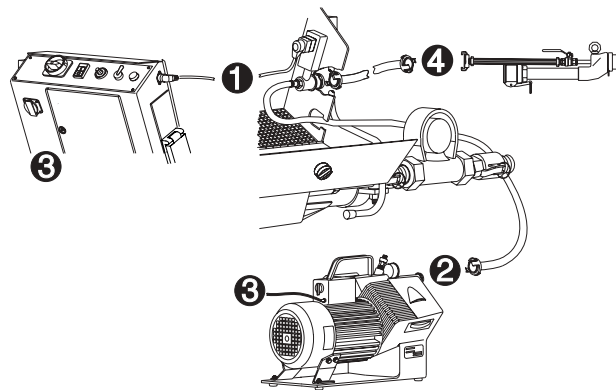

Fig. 7: Connection of compressor to spraying unit
- Connect the control cable of the air-pressure monitor to the 4-pole flange socket (fig. 7, ❶)
- Connect the compressor power cable to the switch cabinet (fig. 7, ❸)
- Connect the air hose of the compressor to the GEKA coupling of the machine (fig. 7, ❷)
- Couple the spraying unit securely to the mortar hose and air hose (fig. 7, ❹)
- Connect the control cable of the remote control to the 4-pole flange socket (fig. 7/8, ①)